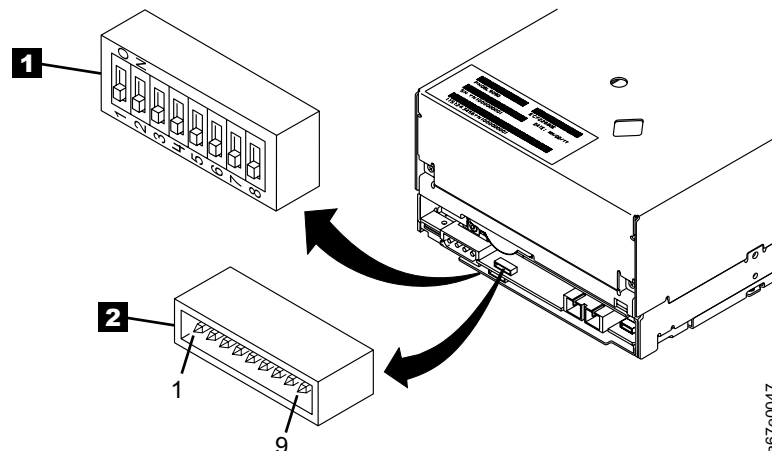

Figure 6. Setting the Loop ID and the AL_PA. The feature switches are located on the bottom of the drive.
If Feature Switch 3 on the Ultrium Tape Drive is set to off (see **1** in Figure 6), the LID/status connector **2** has the following definition:
2. Locate the LID/status connector on the drive (see **2** in Figure 6).
If Feature Switch 3 on the Ultrium Tape Drive is set to 0N (see **1** in Figure 6 on page 16), the LID/status connector **2** has the following definition:
2. Locate the LID/status connector on the drive (see **2** in Figure 6 on page 16).